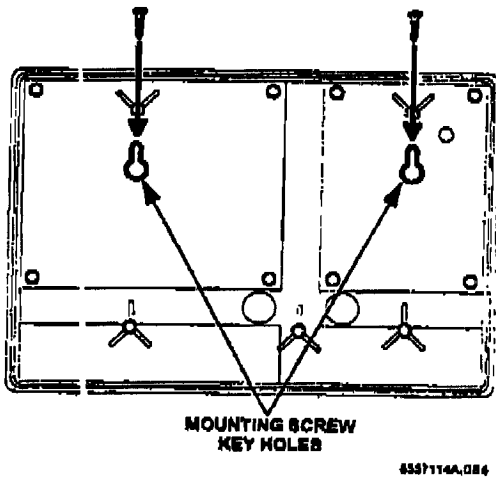

Figure 2. Mounting Hole Locations
- Place the back box on the wall at the desired location and mark mounting holes (see Figure 2).